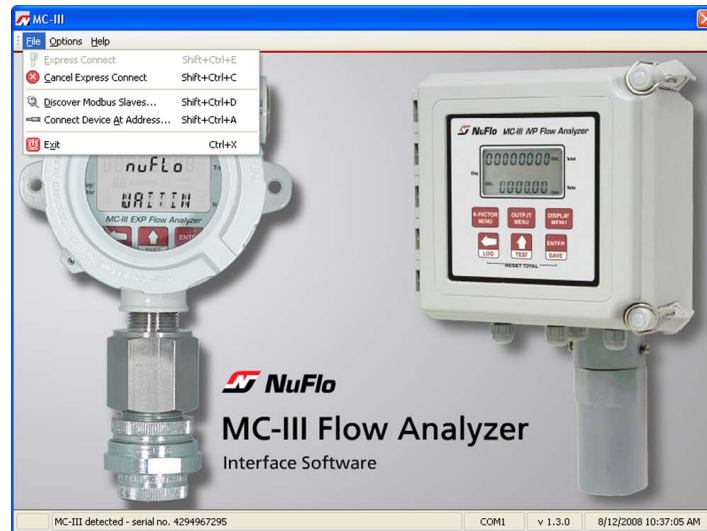

Figure 4.6—Cancel Express Connect option
To temporarily cancel the “express connect” function without exiting the software program, click in the LCD area of the device on the Welcome screen or choose File>Cancel Express Connect from the menu bar (Figure 4.6, page 43). The software will stop all attempts to connect to the device. The “express connect” function will be restored when the user exits the program and attempts to re-open the software.
1. From the Welcome screen, choose File>Cancel Express Connect (Figure 4.6).